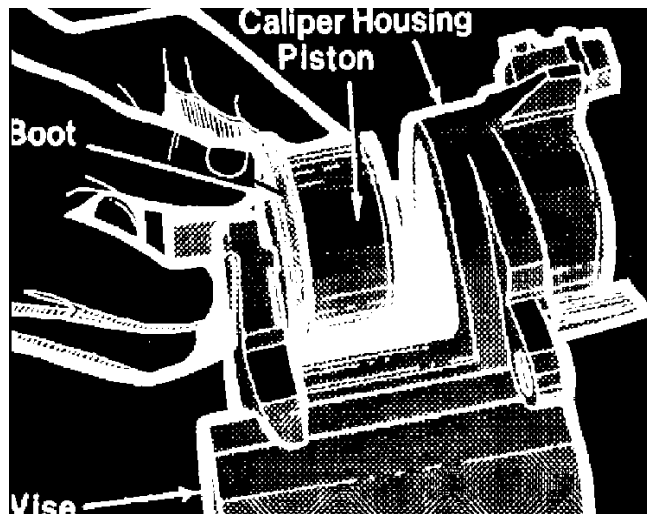

Fig. 4 Positioning piston in caliper
5. Coat piston seal with clean brake fluid. Install balance spring into piston and install assembly into caliper housing, **Fig. 4**.